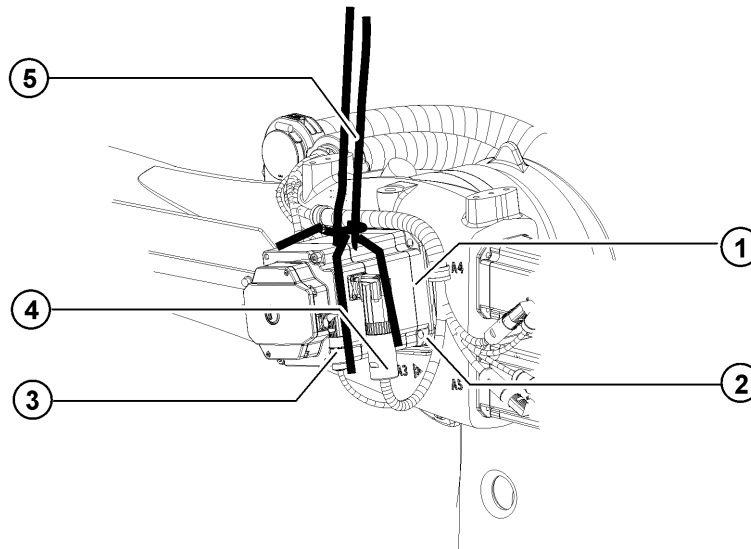

Fig. 11-7: Removing motor A3
3. Release and unplug connectors XM3 and XP3 at the sockets (>>> Fig. 11-7).